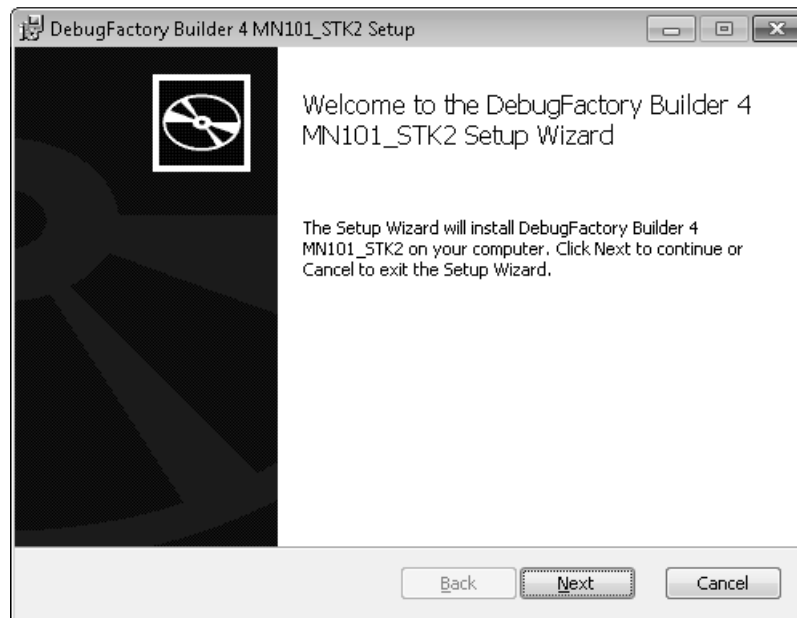

Figure 2.1.3 Starting of setting up DebugFactory Builder for MN101\_STK2
3. After Setup program is started, the dialog shown in Figure 2.1.3 appears. Click <Next>.